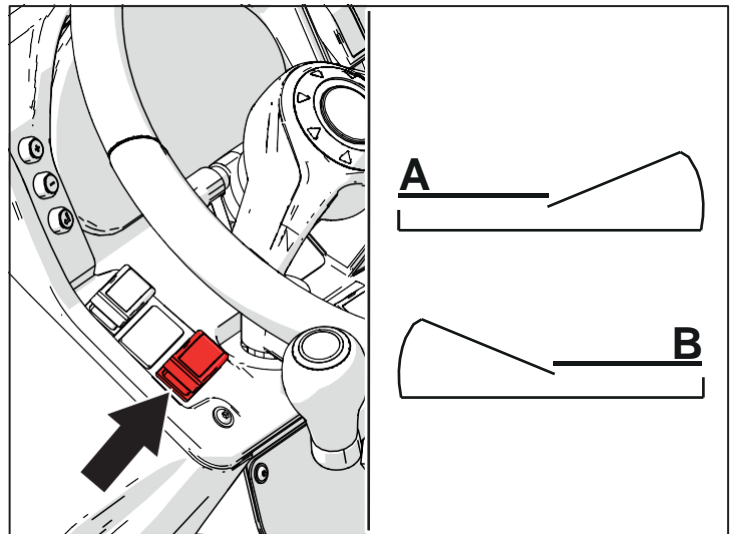

Fig. 5.14
If the regeneration starts in unsafe places, it is possible to inhibit the regeneration itself by placing the command in position (C), see figure 5.14. Inhibited regeneration, if set, is highlighted when the light (2) on the LCD display comes on.